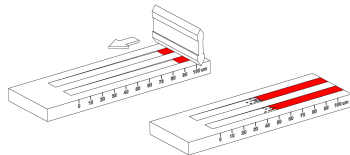

Figure 1. Pull scraper along the gauge
3. Place the scraper on the surface of the gauge behind the material. Use both hands to hold the scraper (Figure 1).